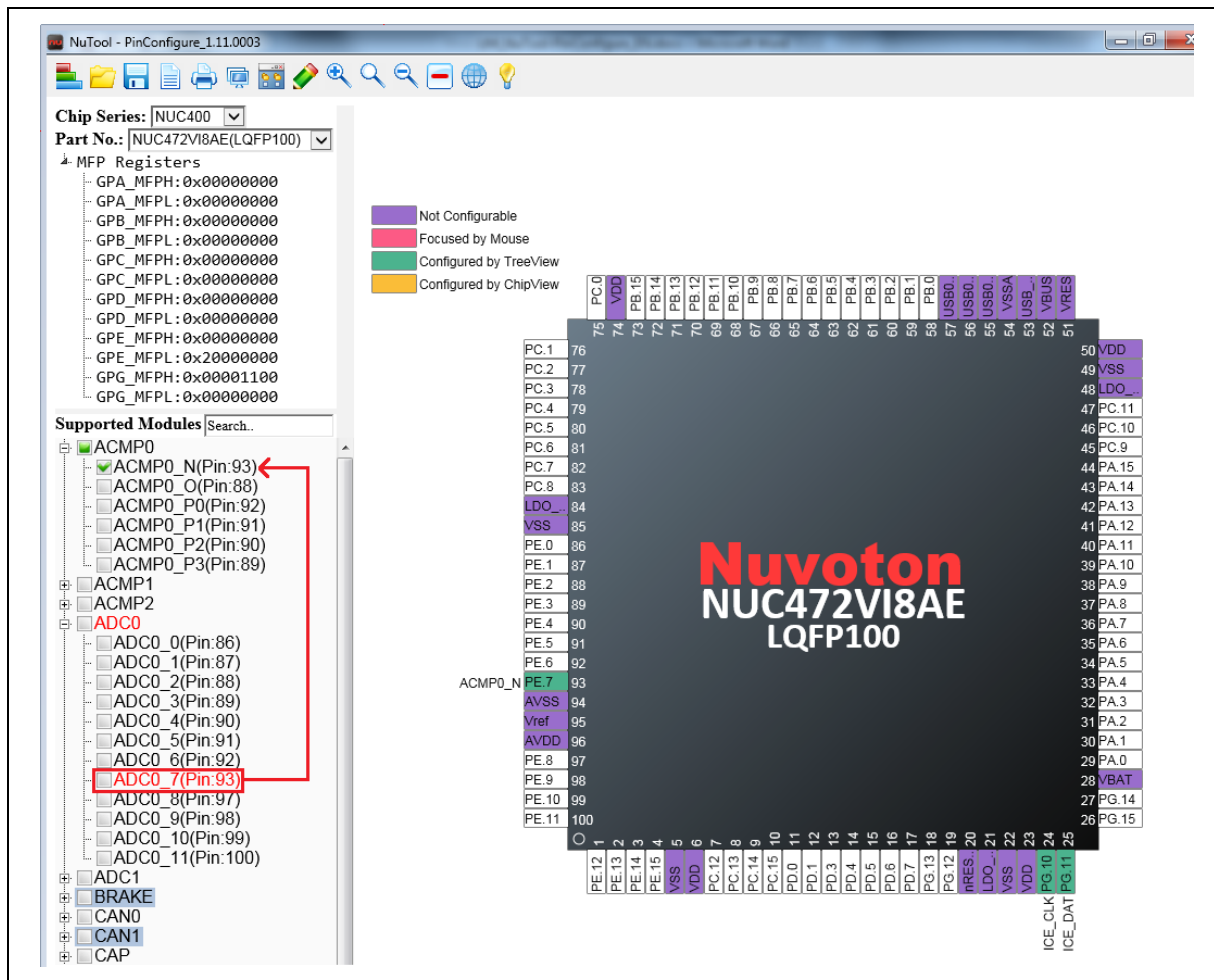

Figure 3-8 Adjustment Based on Removal
1. Move the mouse cursor to the expected pin and click on the left button of the mouse. Then the list of all the related GPIO multi-functions will emerge in the vicinity of the pin (referring to Figure 3-8).